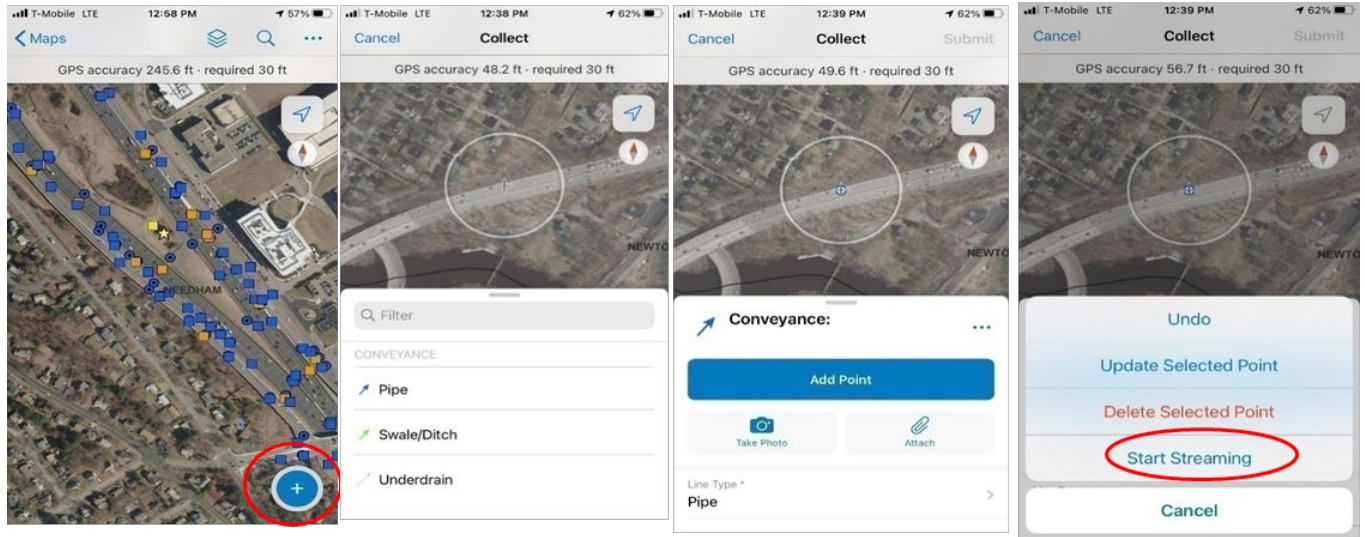

Figure 53
3. Click on the blue plus “+” sign at the bottom of the screen and select the type of feature you’d like to add from the list that pops up (Figure 53).